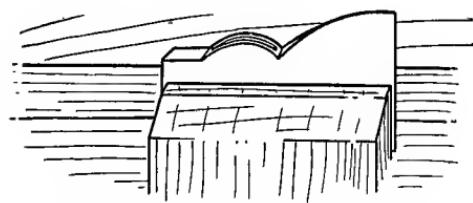

FIG. 156.—A Hatchet-Head Anvil.
**A Hatchet-Head Anvil.** When in need of an anvil, place a hatchet in your bench-vise as shown in Fig. 156; then the